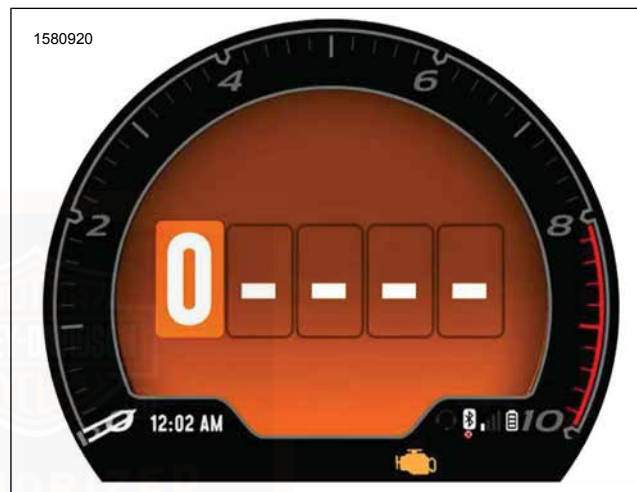
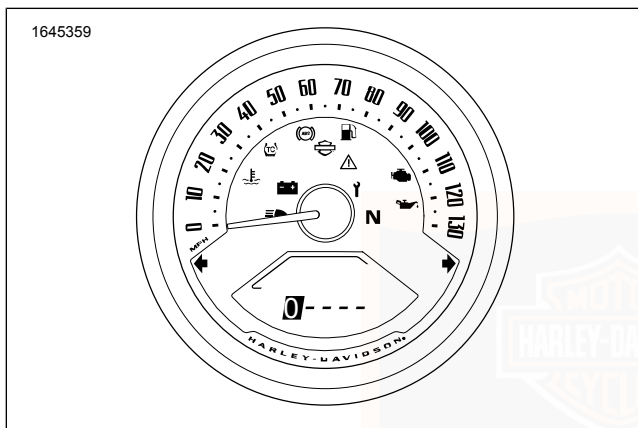

Figure 24. PIN Entry Screen (With Infotainment)
Figure 25. PIN Entry Screen (Without Infotainment)
- c. See Figure 24. The PIN screen will display.
1. See Figure 24 and Figure 25. Select the first digit of the PIN.